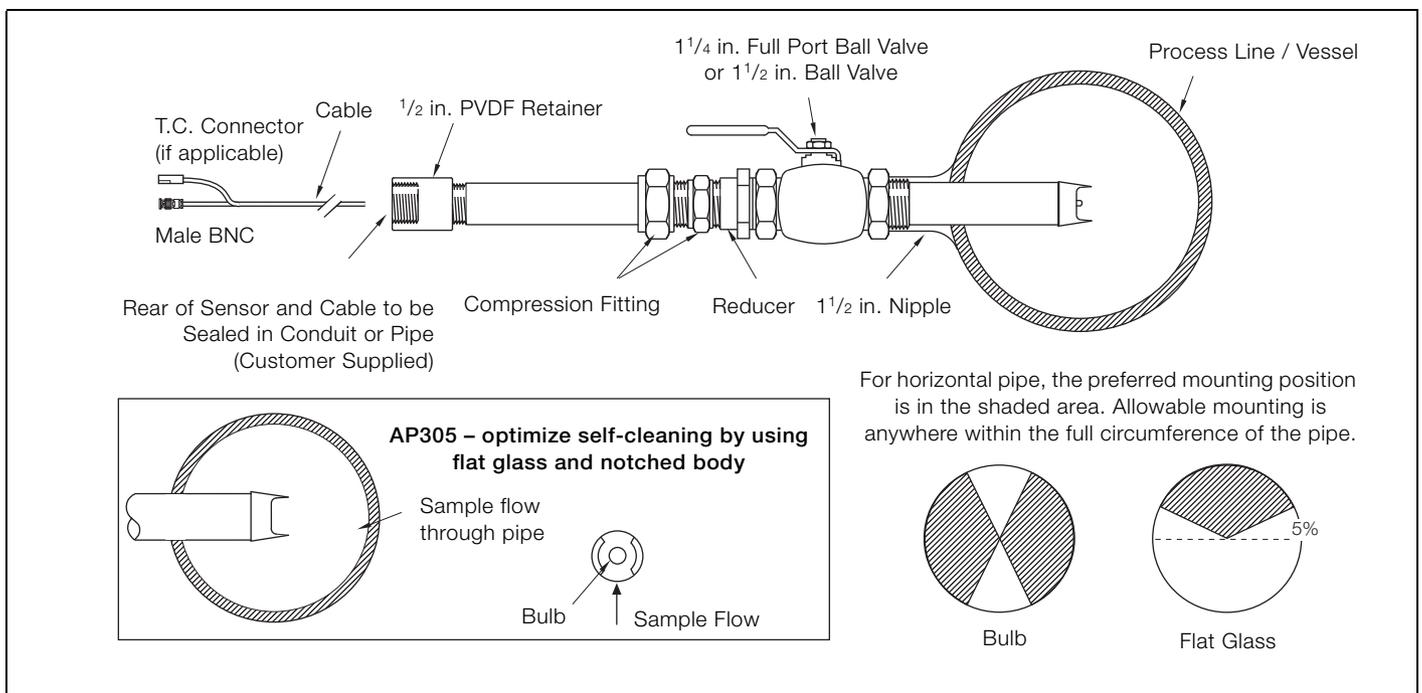

Fig. 2.4 Installing the AP304/5 – Ball Valve and Compression Fitting
2. Fit compression fitting onto the ball valve – see Fig. 2.4.